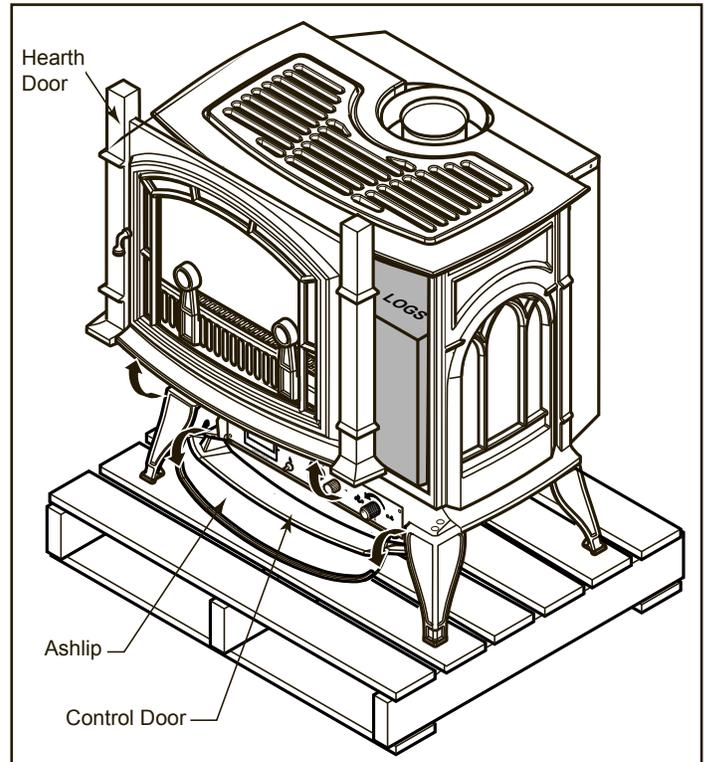

Figure 7 - Open Control Door and Remove Hearth Door
2. Open plastic bag and slide to bottom of unit. Figure 7